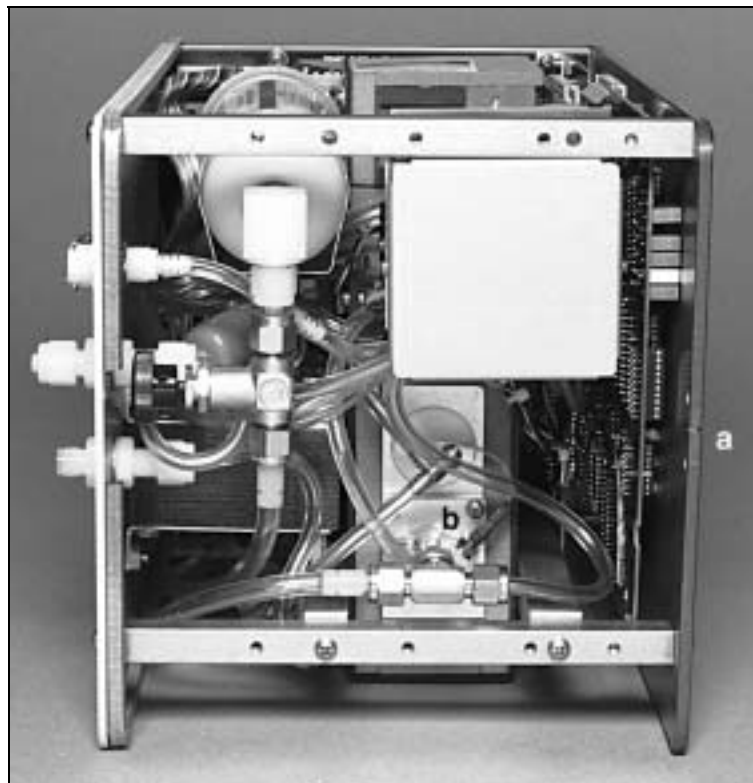

Figure 3-3
- 2.** Remove the wick from the reservoir. To do so, follow refer to Figures 3-3 and 3-4 and follow these steps: